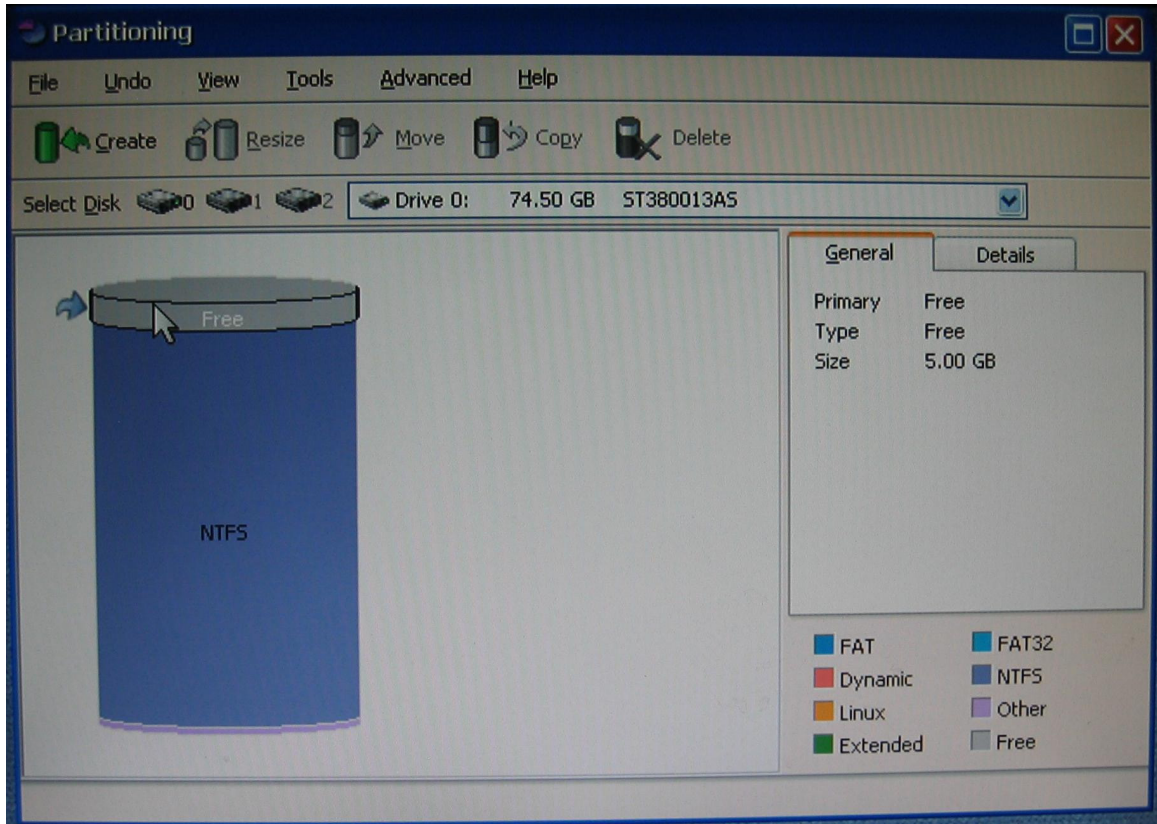

Figure 4-6 Partition Selection
1. From the 'Partitioning' window select the newly formed unpartitioned space (highlighted in gray) which will appear on the top of the cylindrical drive diagram as illustrated in Figure 4-6.